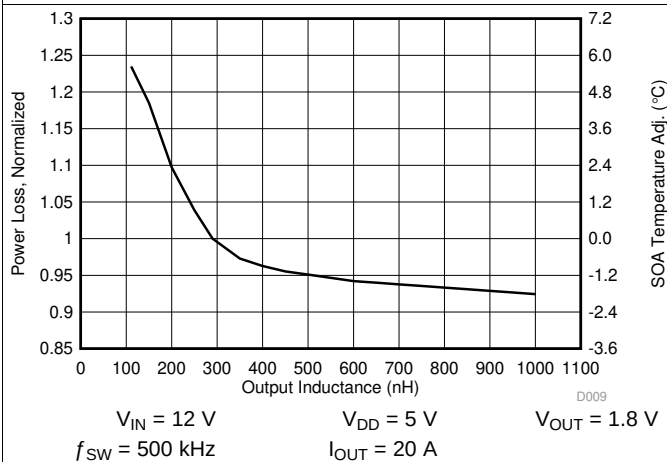

Figure 9. Normalized Power Loss vs Output Inductance
- Normalized power loss for output inductor $\approx$ 1.1 (Figure 9)
- SOA adjustment for output inductor $\approx$ 2.3°C (Figure 9)